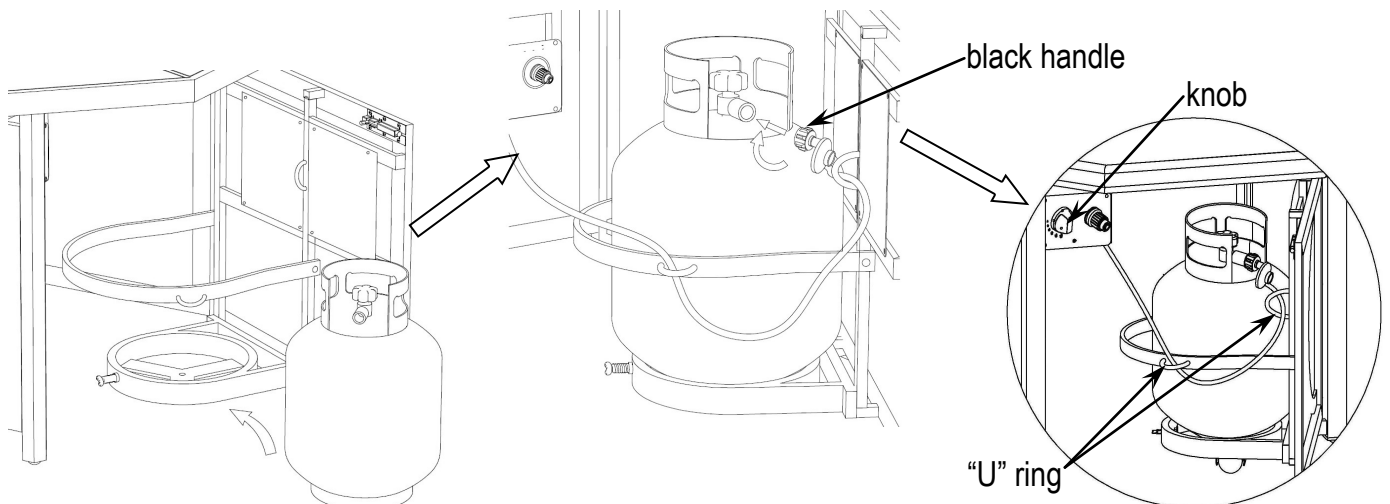

Figure 6
5. Open the door, place the gas cylinder into the cylinder holder, connect the regulator, screw the black handle clockwise to tighten, turn the black handle counterclockwise to remove. The hose must point down. The knob on the control panel is turned all the way to the "OFF" position when the fire pit is NOT in use. Make sure the hose is routed through the two "U" rings to prevent the hose from coming in touch with the burner or the ground. DO NOT remove the hose from the "U" rings (See Figure 6).